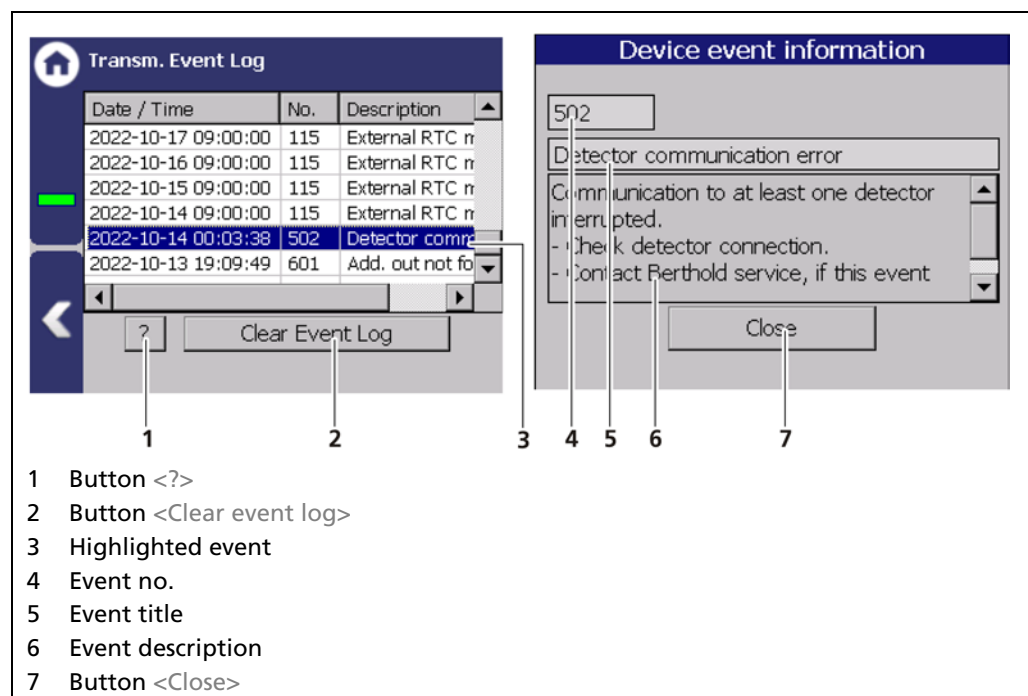

Fig. 122 Display an event log information
1. Click on a line in the list (Fig. 122, item 3).
2. Click on <?> (Fig. 122, item 1).
3. With the button <Close>, close the event description (Fig. 122, item 7).
With the button <Clear event log> (Fig. 122, item 2) all events are deleted irrevocable.